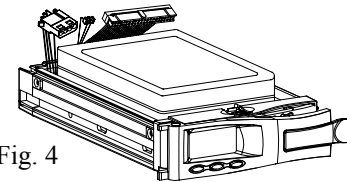

Fig. 4
- Insert the jumper wires (Refer to **section 7-3 Jumper wires setting**) and DC power cable and IDE cable on the HDD. (Fig.4)